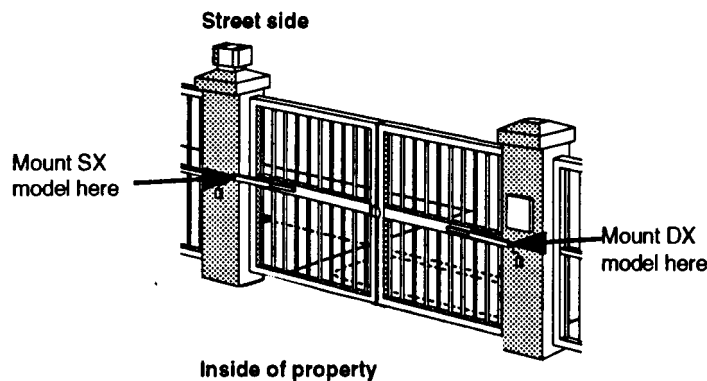

Figure 2. Mount the proper model (SX or DX) on the gate leaf whether the gate swings inward or outward.
- 2- 412 Operator units. One is marked SX and one is marked DX. Be sure to install each on the proper gate leaf (see Figure 2).